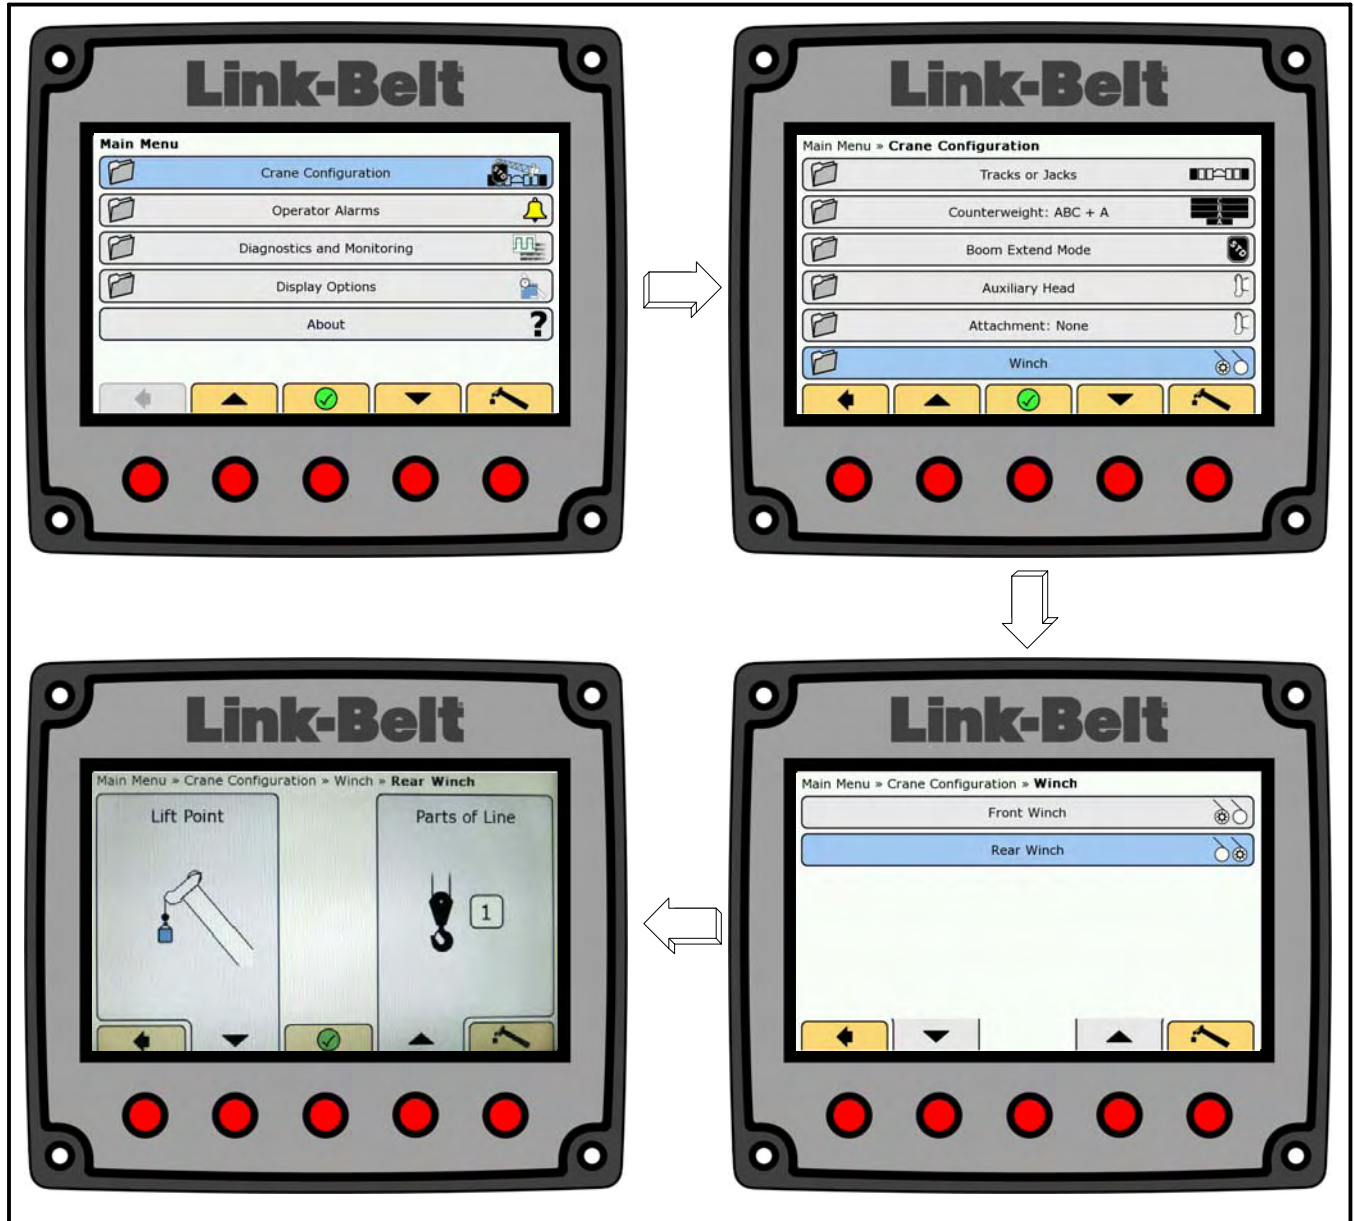

Figure 1–81
19. On the Crane Configuration menu, scroll to Winch, and press the OK/Enter button  to display the front and rear winch items. Refer to Figure 1–81.